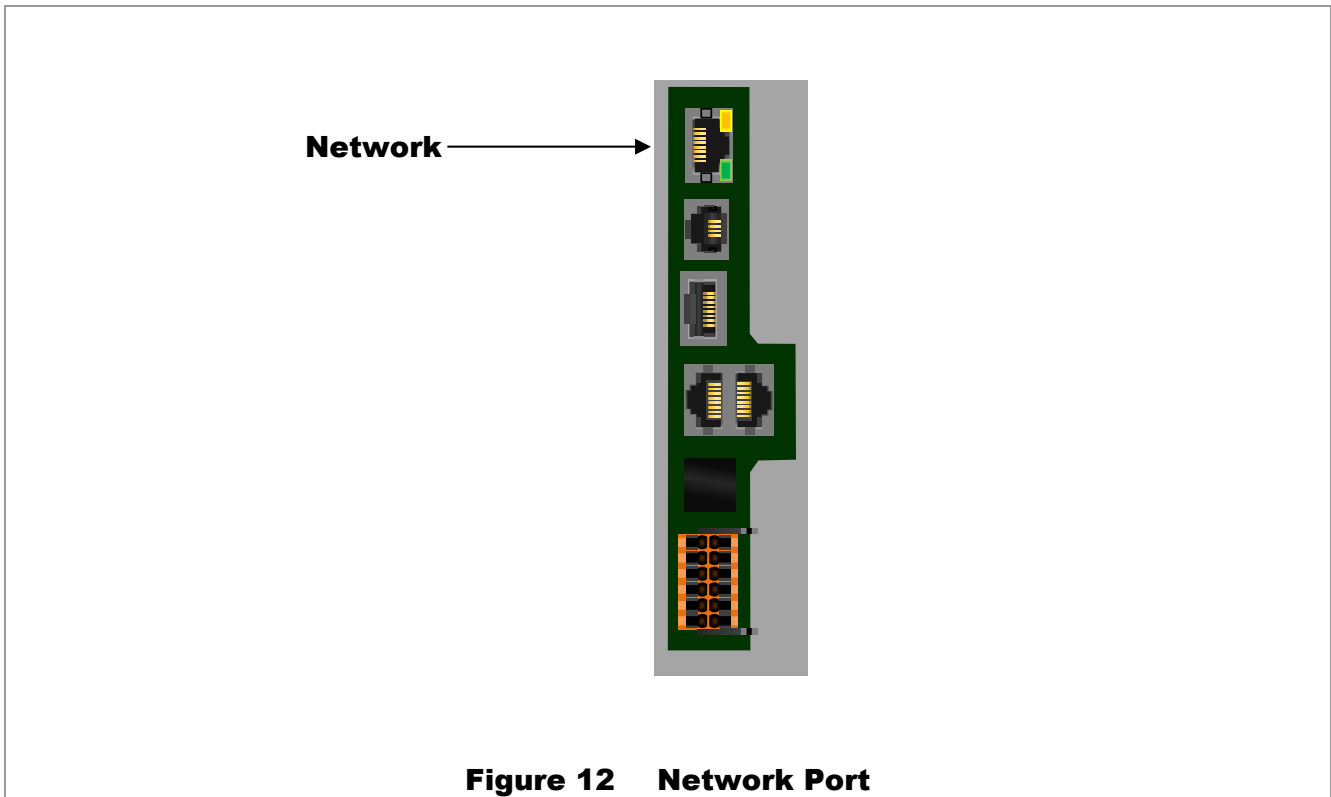

Figure 12 Network Port
1. Connect a CAT5 cable to the **NETWORK** port in the inverter. (See Figure 12 and the *Mojave™ Inverter/Charger Quick Start Guide* for more information.)